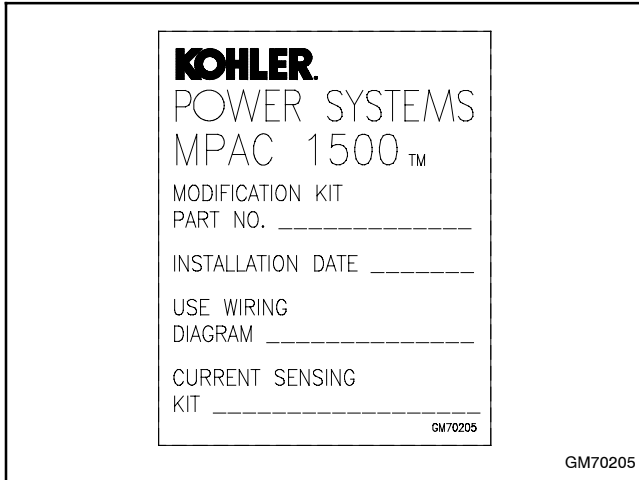

Figure 20 Decal GM70205
22. Record the required information on decal GM70205. See Figure 20. See Figure 3 for the current sensing kit and Figure 23 for the wiring diagram number.